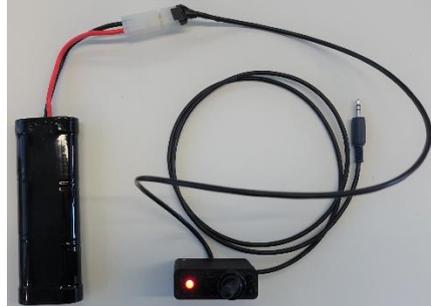

Figure 16: Finished power-supply assembly.
6. Now your power supply assembly should look similar to Figure 16 and is ready to be connected to the battery and plugged into the actuator box!